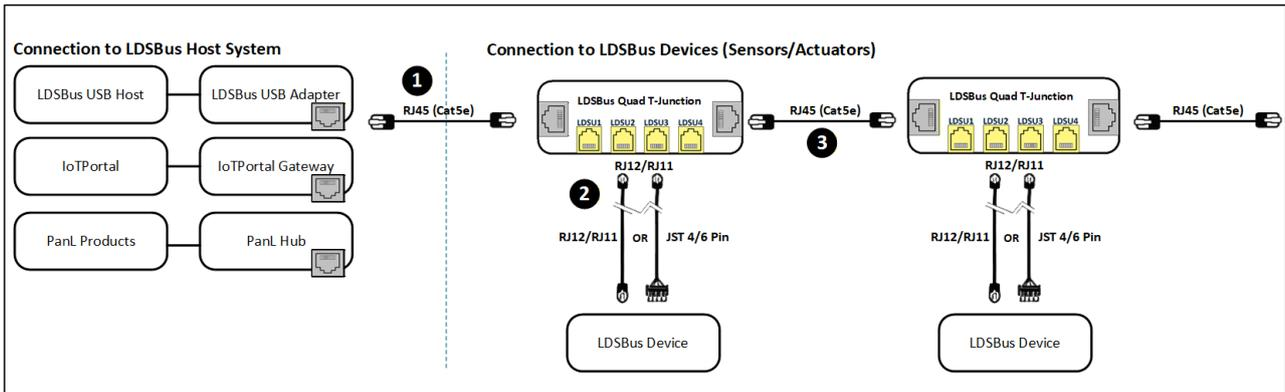

Figure 4 - Connection Diagram
Figure 4 illustrates the connection of the LDSBus Relay (LDSBus Device) to the LDSBus. Please visit <https://brtsys.com/resources> to view the full device application, setup and installation guides.
1. Connect the first LDSBus Quad T-Junction to any of the LDSBus Host System using a RJ45(CAT5e) cable as shown in Figure 4.
2. Connect the configured LDSBus Relay to the LDSBus Quad T-Junction as shown in Figure 4.
3. If there is more than one LDSBus Quad T-Junction, chain them together as shown in Figure 4.